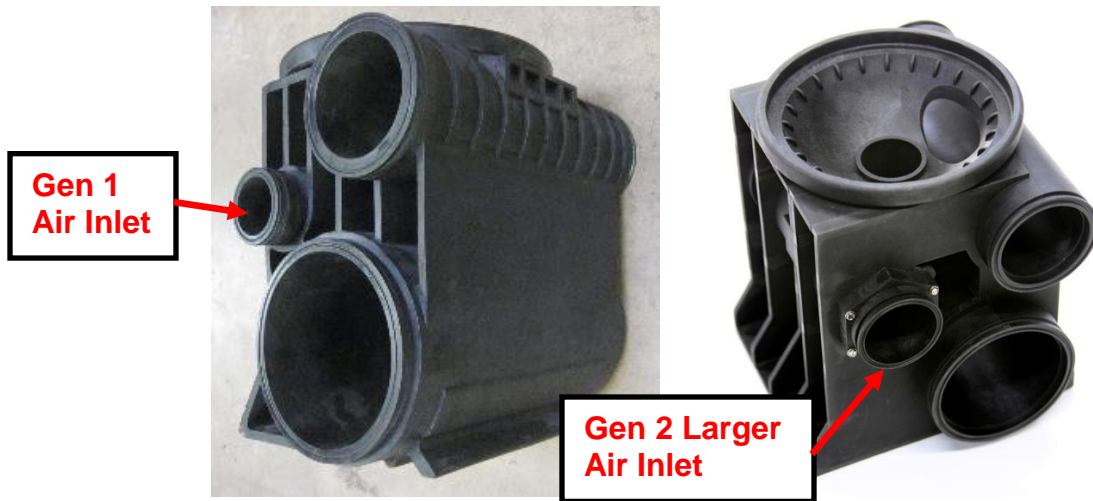

Figure 1: HYDRAcube block shows the Gen1 cube on the left and Gen2 cube on the right with a larger inlet.
- 2) Gen2 air inlet has been increased to approximately 3" BPE to allow for better air flow. This can be identified by the hex fitting (See Figure 1).